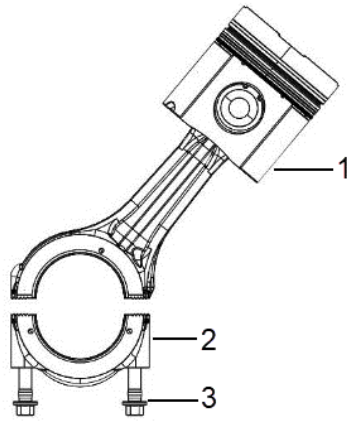

Figure 116.
5. Lower the connecting rod and piston (Figure 116, Item 1) until the connecting rod big end and its half bearing are in place on the crank pin.
6. Reinstall the connecting rod cap (Figure 116, Item 2). Fit the connecting rod bolts (Figure 116, Item 3) and fully engage the cap (turn the crankshaft to facilitate fitting of bolts).
7. Tighten the connecting rod bolts (Figure 116, Item 3) in following sequence: